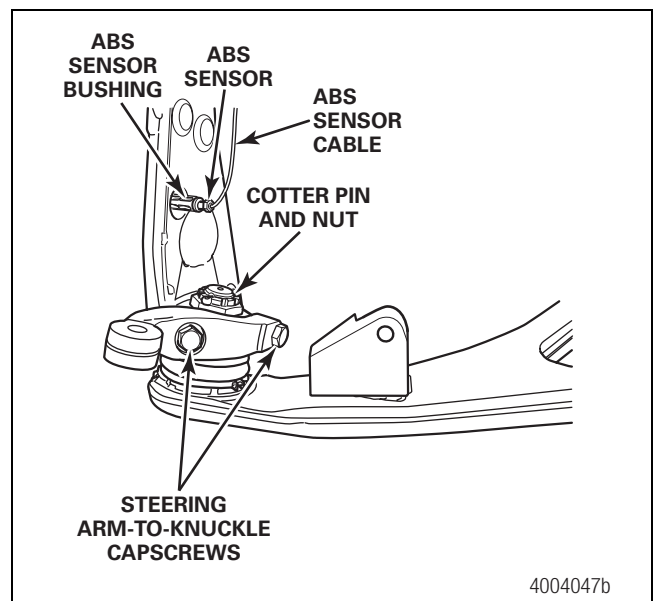

Figure 7.11
- Install the nut that secures the knuckle to the lower control arm ball joint. Tighten the nut to 922-959 lb-ft (1250-1300 N•m). Continue to tighten the nut to align the nut slot with the cotter pin hole. Do not back off the nut to align the nut slot with the cotter pin hole. Install the cotter pin into the nut. Figure 7.11.
4. Position the steering arm onto the knuckle. Apply Loctite® 242 threadlocker, Meritor specification 2297-W-5431, to the two capscrews. Install the two capscrews that secure the steering arm to the knuckle. Tighten the capscrews to 406-428 lb-ft (550-580 N•m). Figure 7.11.
5. Install the ABS sensor bushing and ABS sensor into the knuckle using the procedure in technical bulletin TP-02102, Installation Instructions for Meritor WABCO Wheel Speed Sensor Replacement Kit. For service instructions for ABS braking systems, refer to Maintenance Manual 28, Anti-Lock Braking Systems (ABS) for Trucks, Tractors and Buses, For C Version ECUs; and Maintenance Manual 30, Anti-Lock Braking Systems (ABS) for Trucks, Tractors and Buses, For D Version ECUs. To obtain these publications, refer to the Service Notes page on the front inside cover of this manual. Figure 7.11.